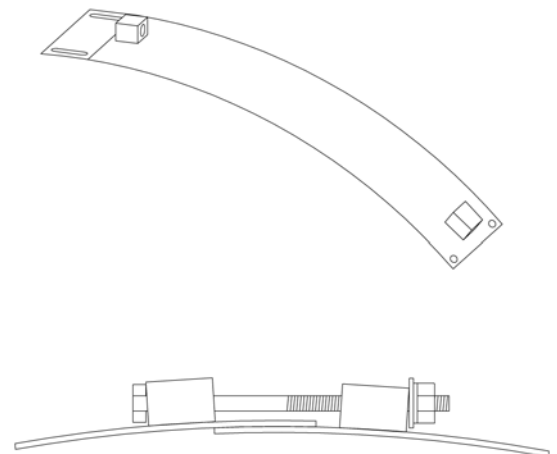

Figure 11
- ***In case the circumferential panels are made of steel and are equipped with an additional clamping device (Figure 11), then also loosely mount the M12x120 screws, plain washer and self-securing nuts intended for this loosely as well.***